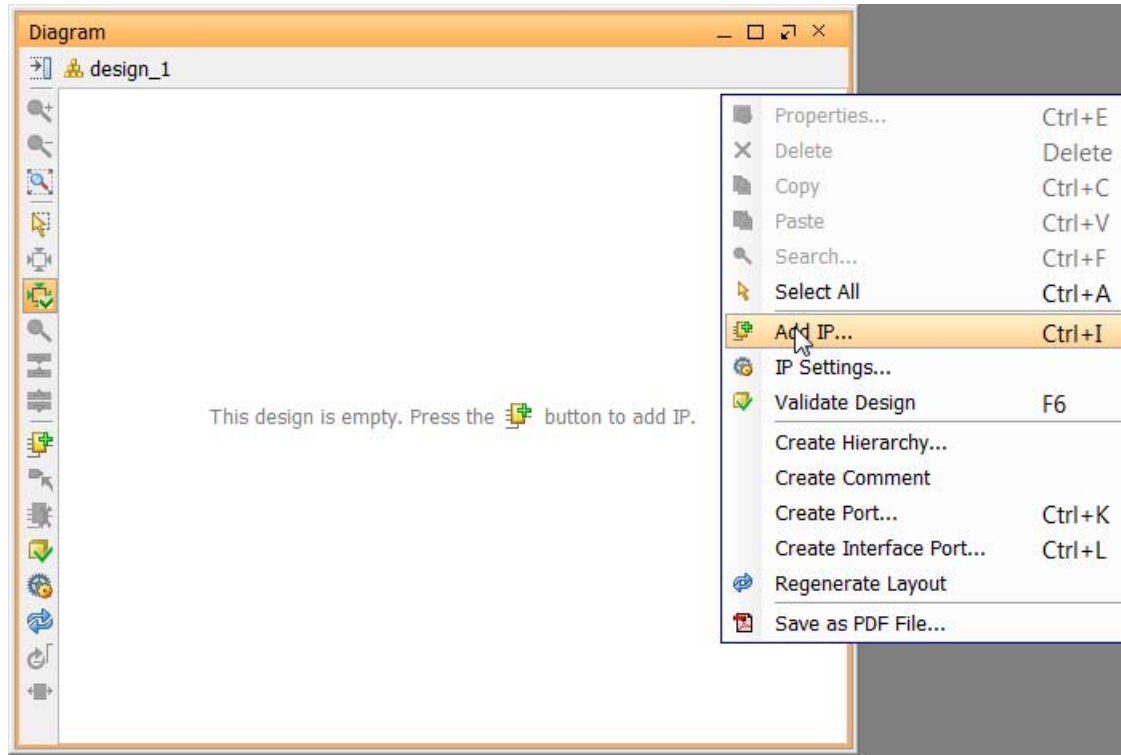

Figure 2-3: Adding IP in the Block Design Canvas
1. In the empty block design canvas, you are prompted to **Add IP** from the IP Catalog (Figure 2-3). You can also right-click in the canvas and select **Add IP**.